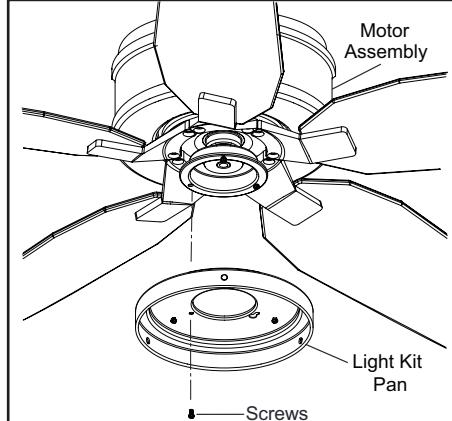

Figure 18
1. Loosen but do not remove two of three mounting screws from the fan motor assembly; Remove one mounting screw. (Figure 18)
2. Push the light kit pan up to the fan motor assembly so that the two loosened screw heads fit into the keyhole slots. Turn the light kit pan clockwise, and tighten the screws. Re-install the screw that was removed in step 1 and tighten firmly. (Figure 18)